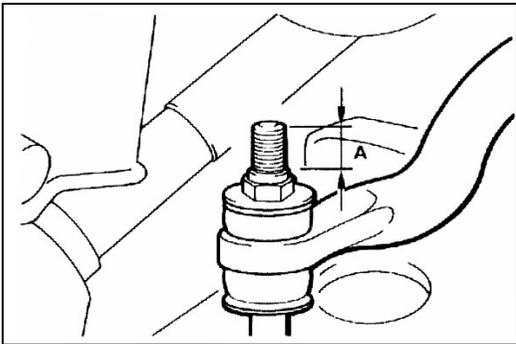

Fig.12-26
(2) **Stabilizer bar installation see Fig.12-26**